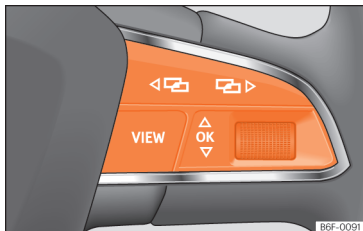

Fig. 73 Right side of the multifunction steering wheel: buttons to the menus and information displays on the instrument panel.
As long as a priority 1 » page 75 warning is active, it will not be possible to access any menu. Some warnings can be confirmed and hidden with the button **OK** of the multifunction steering wheel » **Fig. 73**.
- If a message or vehicle symbol is displayed, press the button **OK** » **Fig. 73**; if necessary, several times.
- To change menus, use buttons **◀** or **▶** » **Fig. 73**.
- To open the menu or the information displayed, press the button **OK** » **Fig. 73** or wait
- In the menu displayed, turn the right thumbwheel of the multifunction steering wheel » **Fig. 73** until the desired option of the menu is highlighted. The option appears framed.
- Press the button **OK** » **Fig. 73** to make the required modifications. A mark indicates that the system or function is activated.
Press the button **◀** or **▶** » **Fig. 73**.